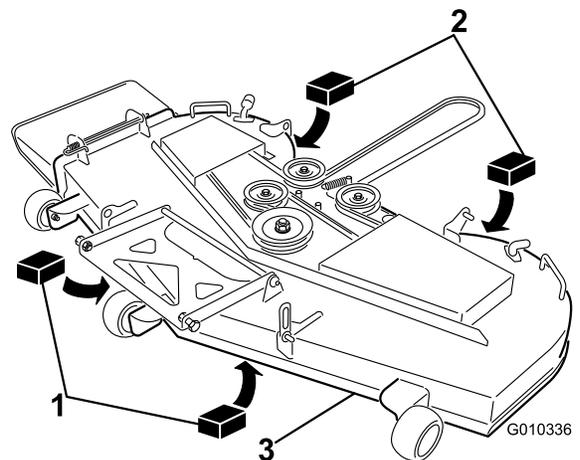

Figure 65
3. Place two 6.66 cm (2-5/8 inch) blocks under each side of the front edge of the deck, but not under the anti-scalp roller brackets (Figure 65).
4. Place two 7.30 cm (2-7/8 inch) thick blocks under the rear edge of the cutting deck skirt; one on each side of the cutting deck (Figure 65).